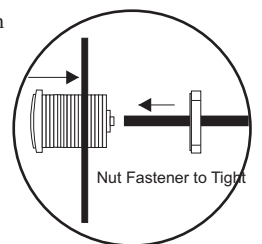

Figure 1
1. Make a hole (size 1-3/8") for the On/Off switch as shown (see fig 1). Pre-drill required.